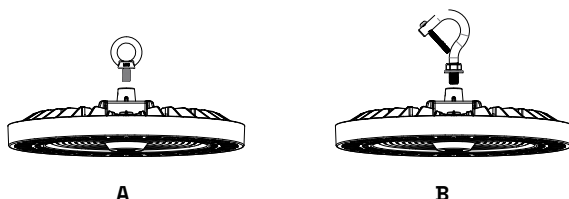

Fig 1
1. Screw the hook into the fixture, tighten and fix it (Fig1).